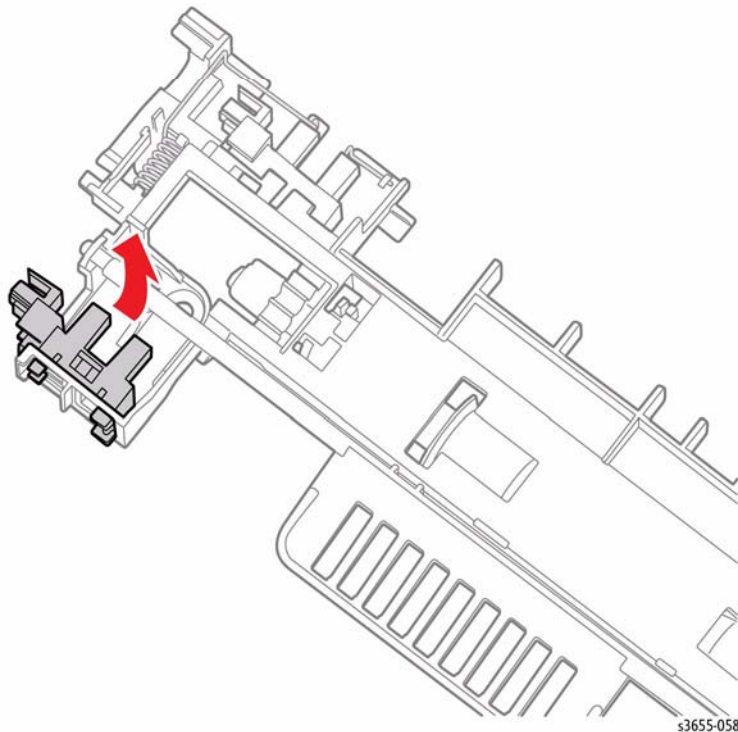

Figure 1 Remove the Exit Sensor
2. Refer to Figure 1 to locate and release the hooks that secure the Exit Sensor to the Exit Chute Assembly.